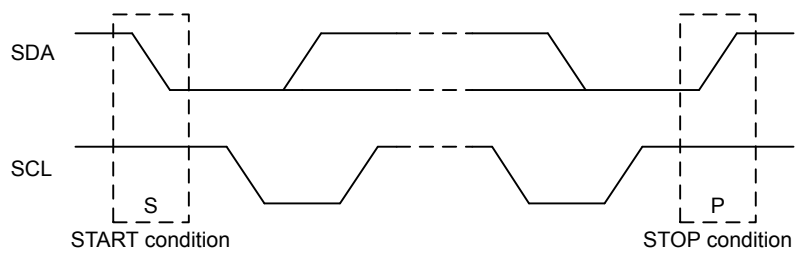

Figure 22.4. I2C START and STOP Conditions
START and STOP conditions are used to initiate and stop transactions on the I²C-bus. All transactions on the bus begin with a START condition (S) and end with a STOP condition (P). As shown in Figure 22.4 I2C START and STOP Conditions on page 648, a START condition is generated by pulling the SDA line low while SCL is high, and a STOP condition is generated by pulling the SDA line high while SCL is high.